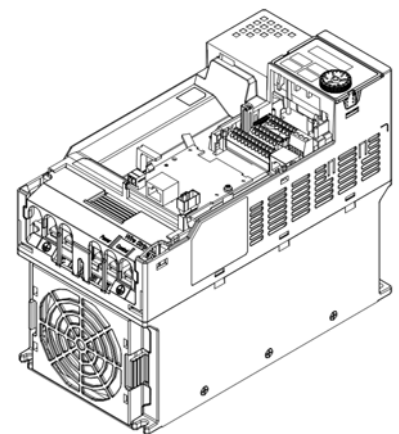

Figure 8-37
6. As shown in the Figure 8-37, assembly is completed.